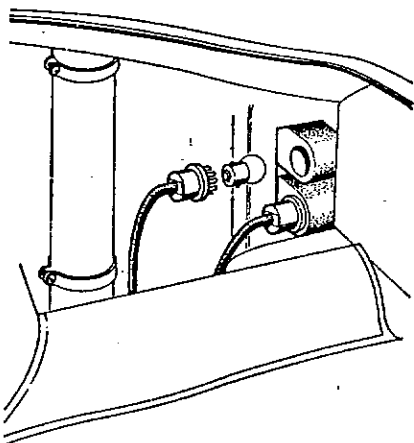

Fig. 56. Rear Stop/Rear/Indicator Bulb Replacement
1. Lower flap in rear of car (fig. 56).